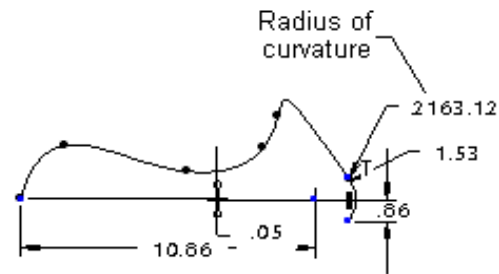

Figure 3-16 Radius of curvature
3. Press the middle mouse button to place the dimension. Figure 3-16 shows the radius of curvature dimensioning of a spline.